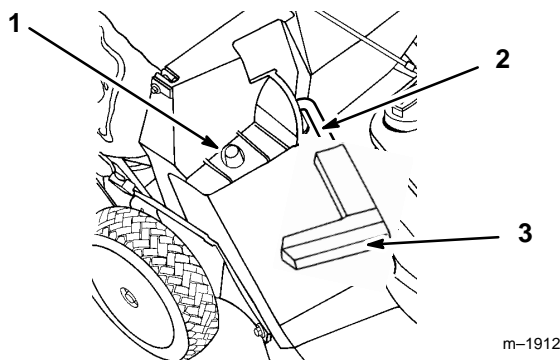

Figure 12
2. Ensure discharge door handle is fully forward and pin is engaged in catch (Fig. 12).
3. **INSTALLING BAG**—Slide hole in bag frame onto retaining post on discharge tunnel (Fig. 12). Set rear of bag frame onto the support rod.
5. EMPTYING BAG—Stop engine and wait for all moving parts to stop. Raise discharge door handle and move it forward to engage the locking pin with the catch (Fig. 12). Grasp handles at front and rear of bag and lift bag off mower. Gradually tip bag forward to empty clippings.